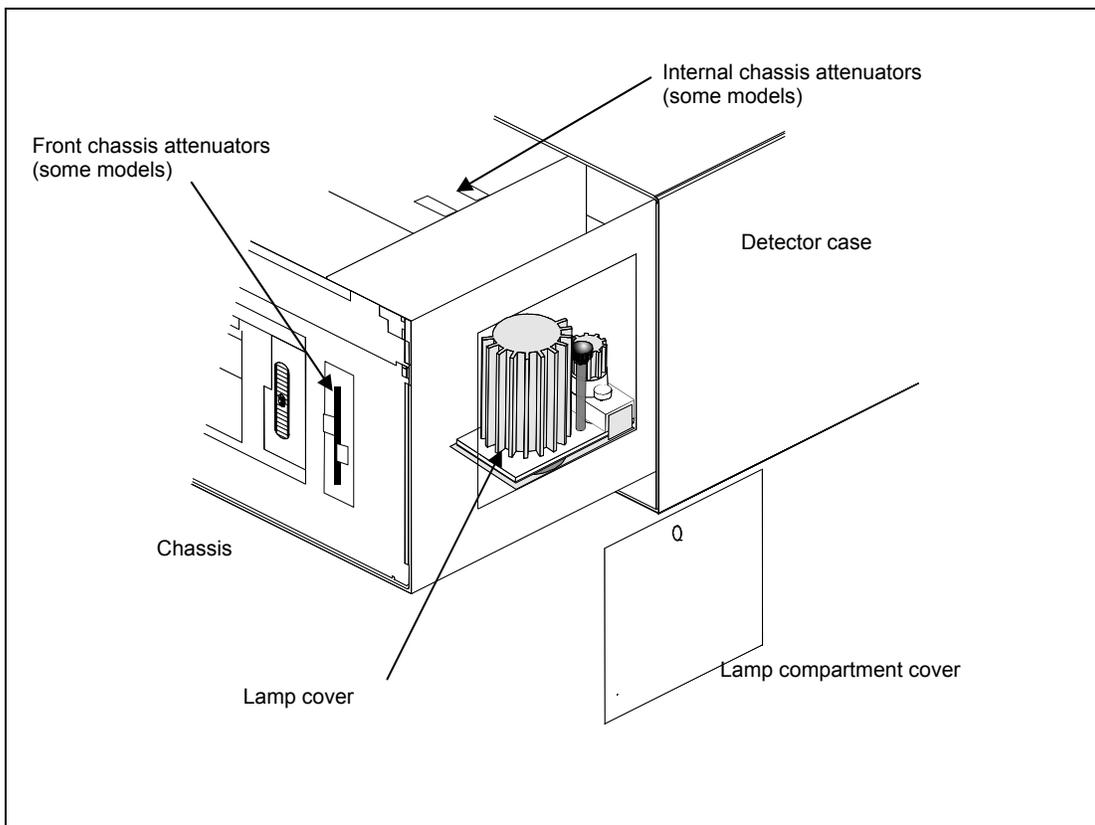

Figure 4.9 Accessing Lamp Assembly
5. Slide the chassis out of the detector case until the metal lamp compartment cover is accessible from the right side of the instrument (Figure 4.9).
NOTE: On some models of the UV6000LP the attenuators are located on the front of the chassis and do not require removing the chassis to adjust (see figure 4.9). If your detector has these front chassis attenuators, after removing the inner bezel door in step 2 go directly to step 8, it is not necessary to remove the LightPipe assembly.